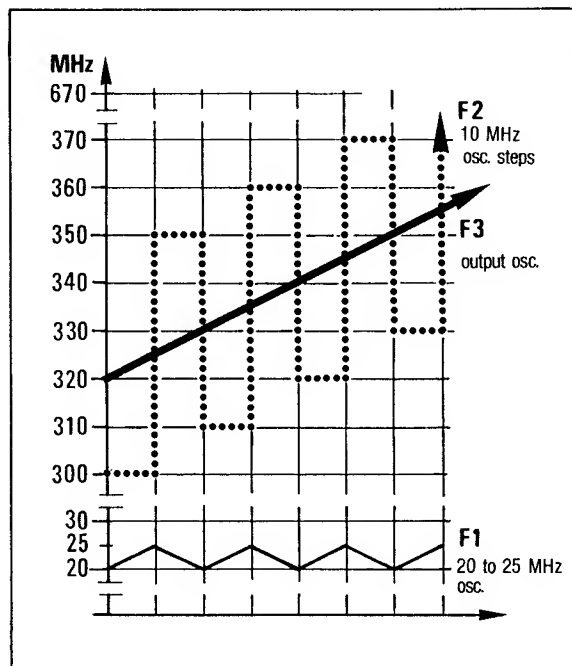

Figure 4-2 : Variation of the 3 oscillators
- Let F1, F2 and F3 be the signals corresponding respectively to the frequencies of the 20 to 25 MHz, 300 to 670 MHz and 320 to 650 MHz oscillators, the curve giving their variation being that of figure 4.2.